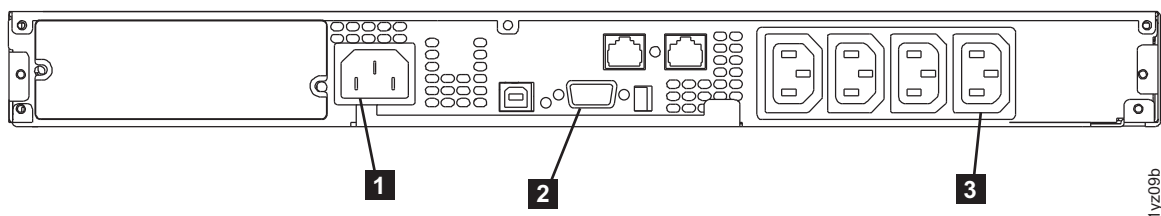

Figure 230. 2145 UPS-1U (rear view)
9. At the back of the 2145 UPS-1U, connect the SAN Volume Controller power cable to load segment 2 receptacle (**3** in Figure 230 on page 274). If applicable, install the power cable-retention bracket (shown in Figure 229).
10. Reconnect the SAN Volume Controller signal cable to the communication port (**2** in Figure 230 on page 274).
11. Reconnect the 2145 UPS-1U main power cable, from either the power distribution unit or from the redundant AC-power switch, into the input connector (**1** in Figure 230 on page 274).
The 2145 UPS-1U is now in standby mode with the SAN Volume Controller offline. All indicators that are shown in Figure 230 are off.